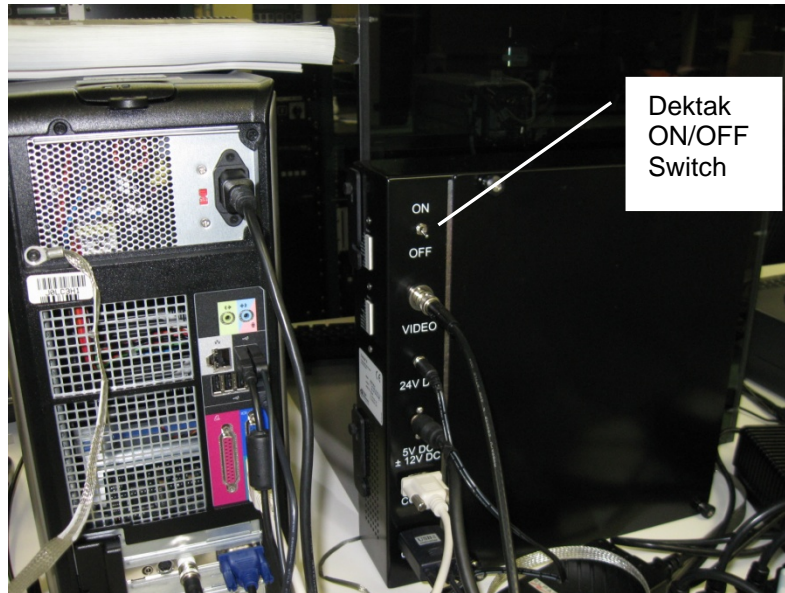

Figure 2: Backside of E-Box.
- Turn on the Dektak 8 by flipping the power switch on the back of the E-box (Figure 2).
- c) Turn off the switch on the back of the E-box (Figure 2).